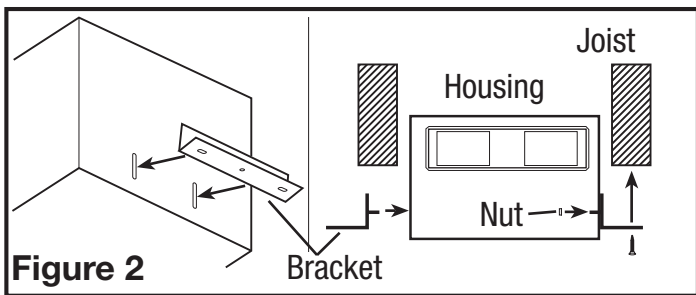

Figure 2
- If the mounting brackets are not already in place, install both brackets through the top set of slots on the fan housing and secure in place with the four included nuts as shown. Center the fan housing between the joists and secure the mounting brackets with screws (not included) to the joist. Adjust the height of the housing so that it will be flush with the finished ceiling by loosening the mounting bracket nuts and sliding the housing up or down on the bracket. Full tighten all four nuts to secure the housing in place (Figure 2).